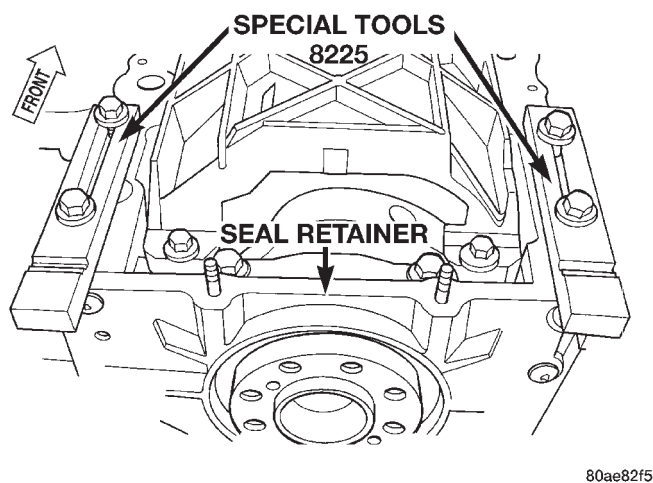

Fig. 68 Rear Crankshaft Seal Retainer Alignment
(4) While applying firm pressure to the seal retainer against Special Tools 8225 (Fig. 68), tighten seal retainer screws to 12 N·m (105 in. lbs.)